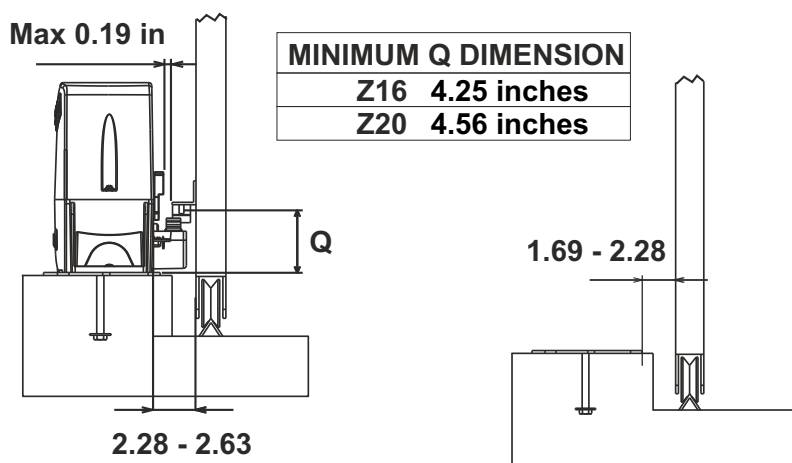
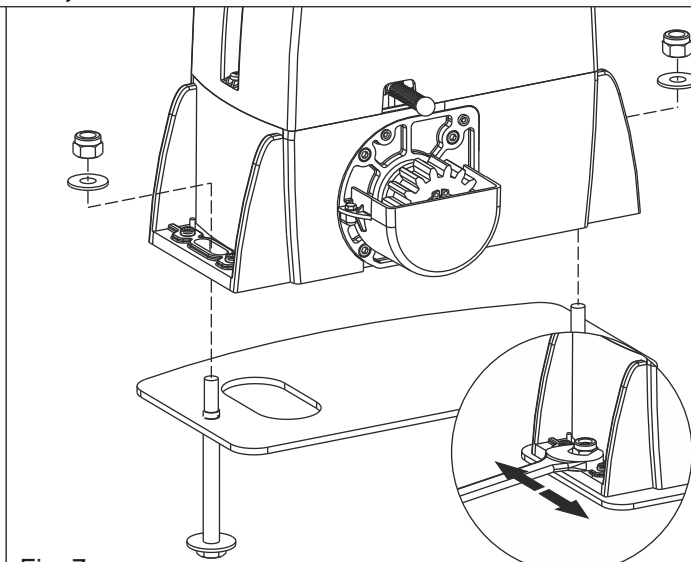

Fig. 4
Fig. 7
2.3. Before concreting the plate, make sure that it is perfectly levelled and that the distance of **2.28 - 2.63 inches** as shown in Fig. 4 is respected
4.2. Fix the gear motor to the foundation plate using the 2 included nuts, adjusting the side position (Fig. 7) so to respect the shown quota in Fig. 4